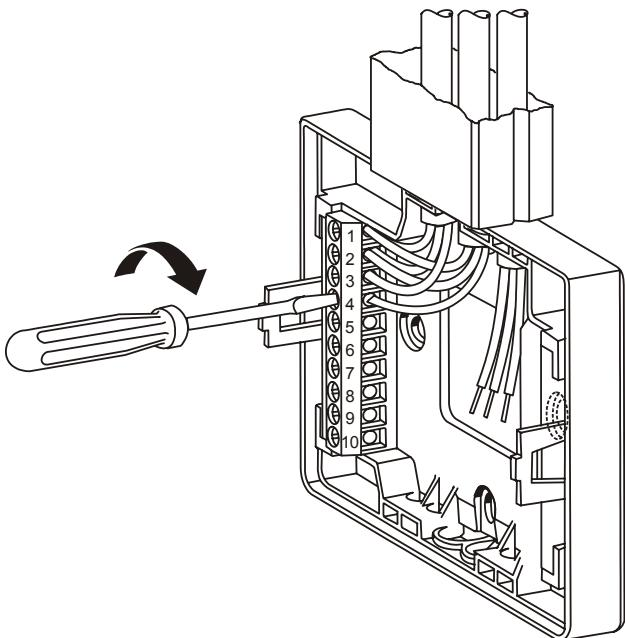

Fig. 7. Terminal box connections
- Ensure that the wire entering the terminal block does not extend above the numbered face of the terminal block to avoid contact between the wires and the printed circuit board on the underside of the front cover (see Fig. 7).